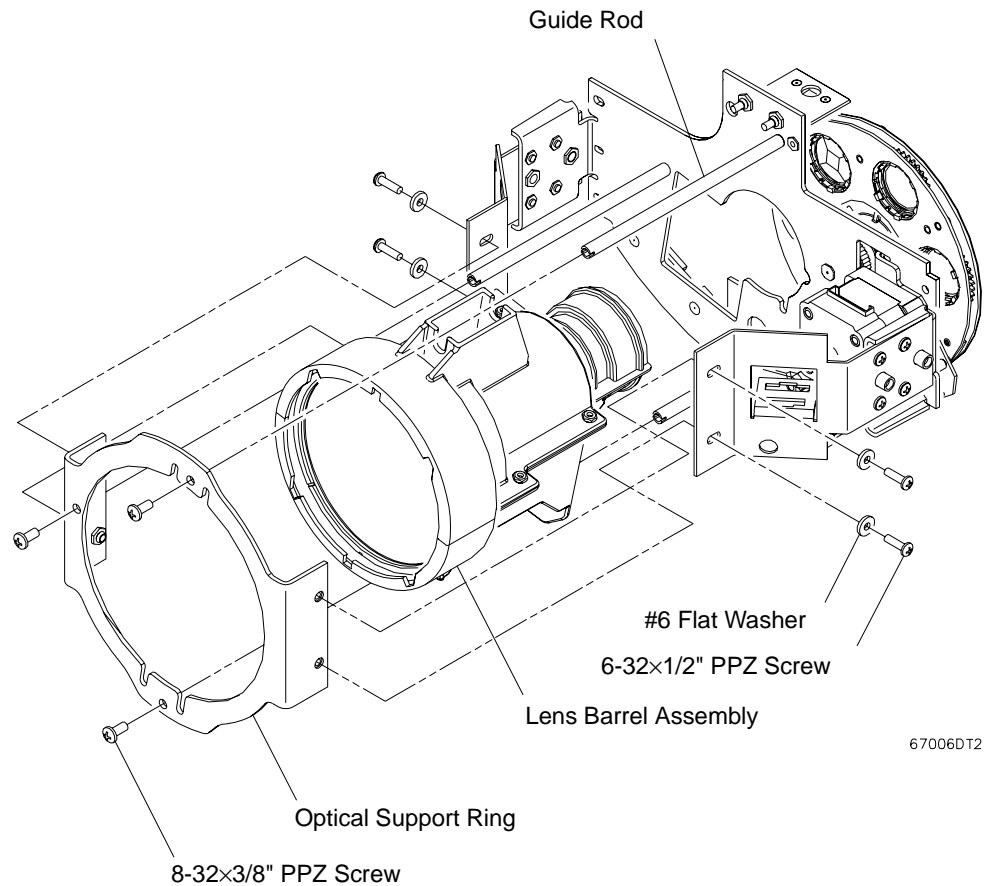

Figure 2-16: Lens Barrel Assembly Replacement
Step 7. At front of optical support ring, remove three 8-32×3/8" PPZ screws. **Figure 2-16.**